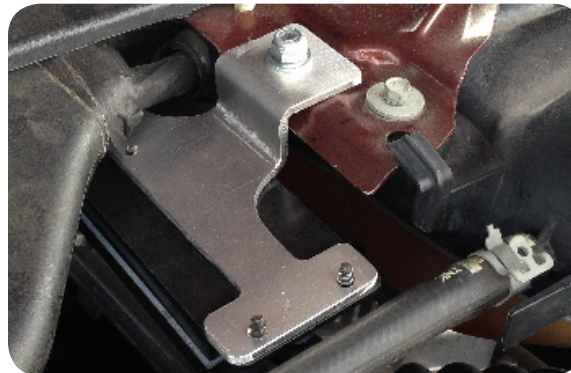

Fig. 3
2. Bolt bracket to factory mounting location near windshield. (**Fig. 3**)